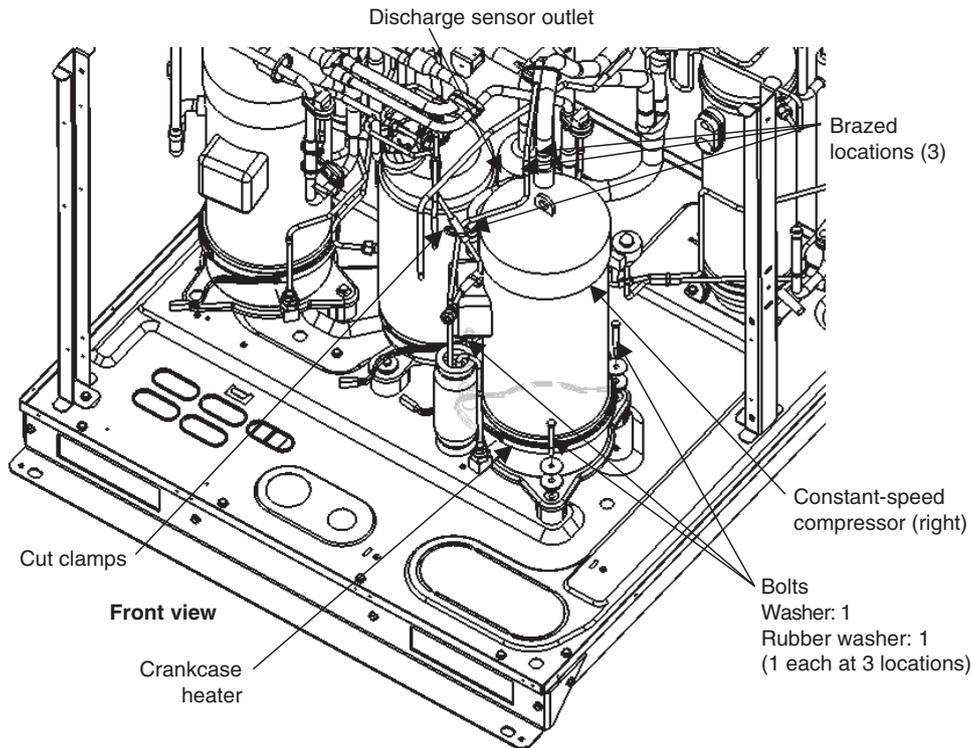

Fig. 27
- (1) Connect the manifold gauge to the high- and low-pressure outlet ports at the outdoor unit where the compressor will be replaced. Connect the manifold gauge to a nitrogen cylinder and perform nitrogen gas replacement.
- (2) Follow the instructions in “1. Removing Panels” and “2. Removing Electrical Component Box and Duct” and remove the corresponding parts from the outdoor unit where the compressor will be replaced.
- (3) Remove the cap at the compressor terminal plate. Disconnect the power terminal.
- (4) Remove the crankcase heater.
- (5) Remove the bolts, washers, and rubber washers (1 each at 3 locations).
- (6) Prepare to disconnect the 3 brazed locations shown in the figure 27.
- (7) Disconnect the 3 brazed locations shown in the figure 27.
- (8) Cut clamps as shown in the figure 27, and then pull the compressor toward you.